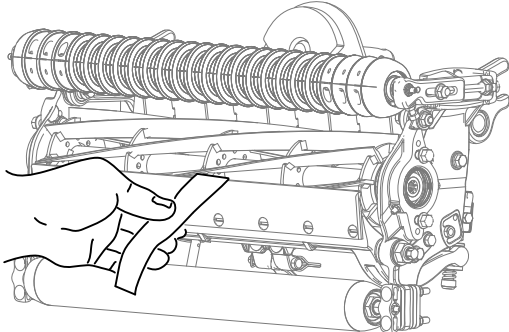

Figure 10
- Test the cutting performance by inserting a long strip of Toro cutting performance paper between reel and bedknife, perpendicular to the bedknife (Figure 10).